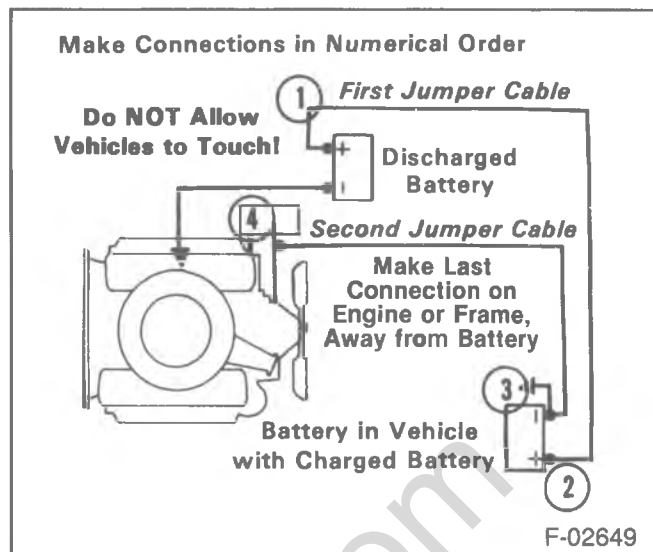

Figure 12—Jump Starting Connections
3. Making sure the cable clamps do not touch any other metal parts, clamp one end of the first booster cable to the positive (+) terminal on one battery, and the other end to the positive terminal on the other battery (figure 12). Never connect (+) to (-).
A prevailing torque bolt is designed to develop an interference between bolt and nut threads, or the threads of a tapped hole. This is accomplished by distorting some of the threads or by using a nylon patch or adhesive (figure 12).